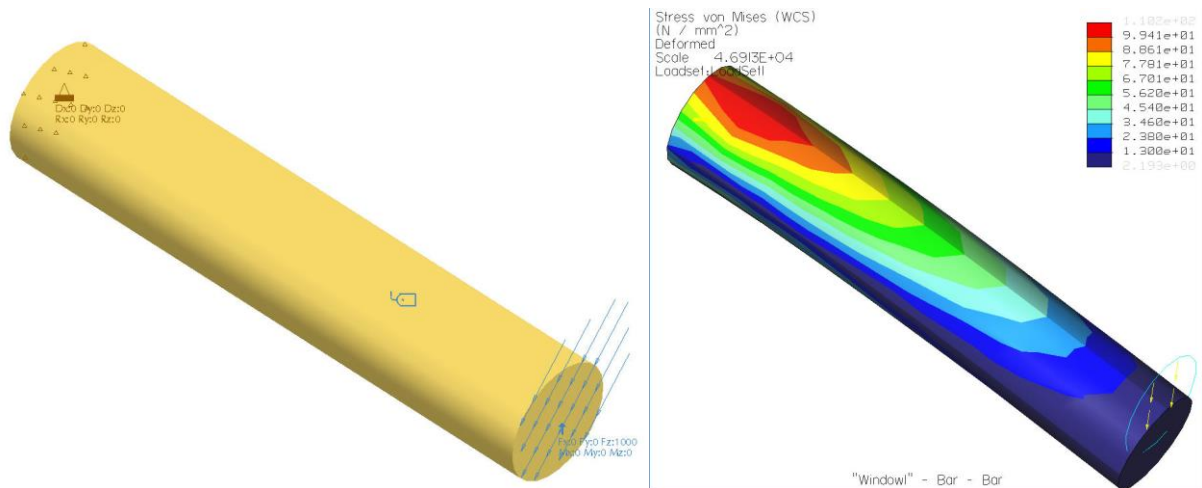

Figure 10 – Bending Moment
- Pick the tensile load by clicking on the orange arrows in the main graphics window (they turn green) then choose **Edit Definition** (RMB). You should see the Force/Moment Load dialog (as in Figure 4). Change the load value to **0** in the **Y** direction and to **1000** in the **Z** direction. Check the load direction is as shown in Figure 10.